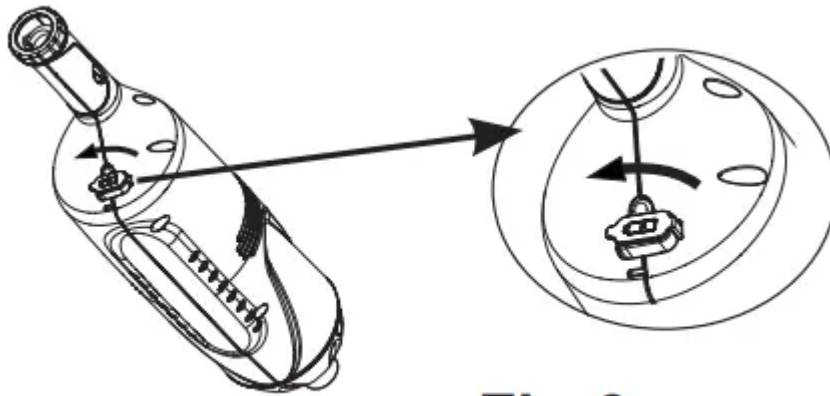

Fig 6
1. Make sure the USB receptacle is securely covered with the rubber flap first. See fig 6. Slide the switch to “1” first then place the vacuum in the water.